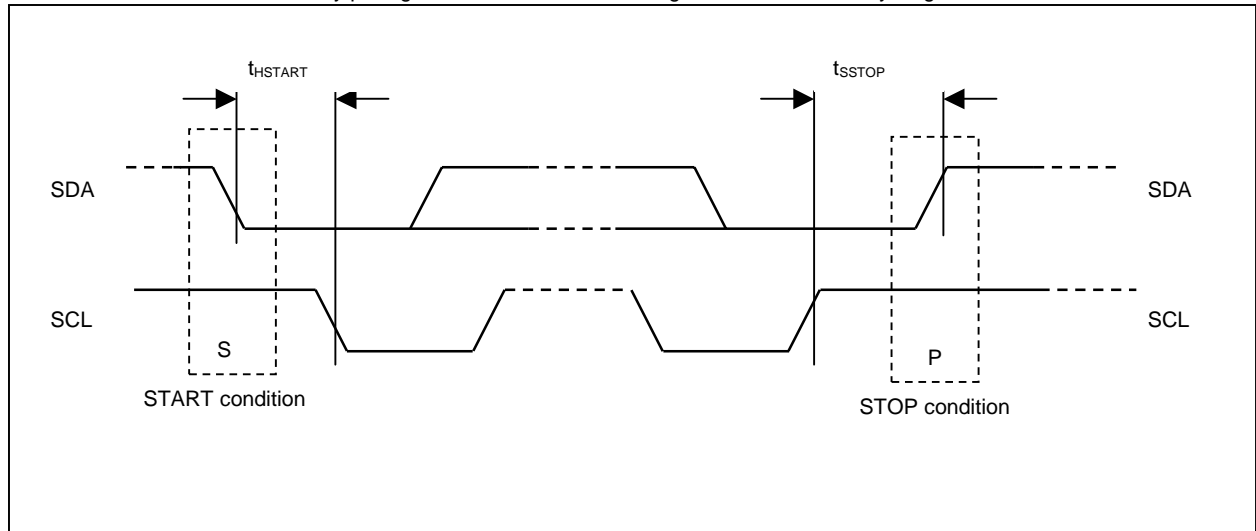

Figure 12 : Definition of the start and stop condition
- 1) The master device initiates the data communication by a start condition. The definition of the start condition is shown in Figure 12. The start condition is established by pulling the SDA from high to low while the SCL stays high.
- 7) The write mode will be finished when a stop condition is applied. The stop condition is also defined in Figure 12. The stop condition is established by pulling the "SDA in" from low to high while the "SCL" stays high.
- 1) The master device firstly initiates the data communication by a start condition. The definition of the start condition is shown in Figure 12.
- 6) The read mode will be finished when a stop condition is applied. The stop condition is also defined in Figure 12.